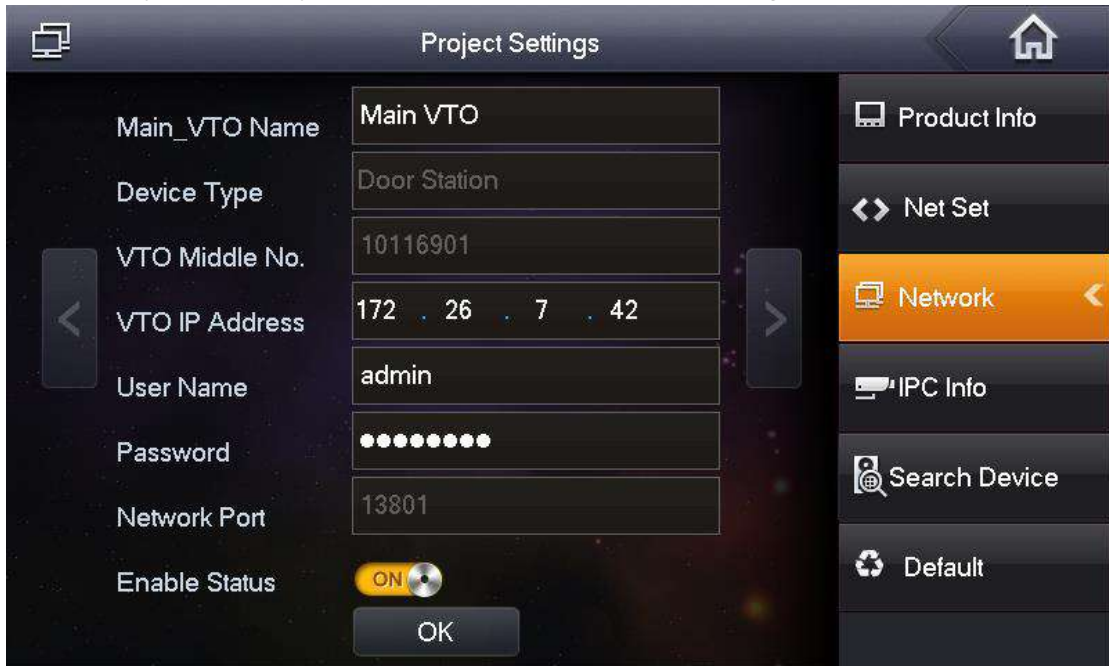

Figure 2-14
The system displays “Network” interface, as shown in Figure 2-14.
1. In Figure 2-14, enter main VTO name, IP address, “User Name” and “Password”.